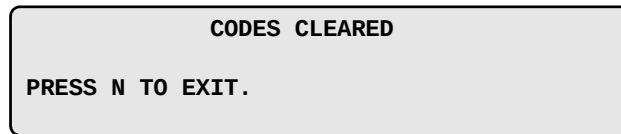

Figure 12-36 Sample ABS codes cleared message
- When the test finishes a codes cleared screen displays (Figure 12-36).